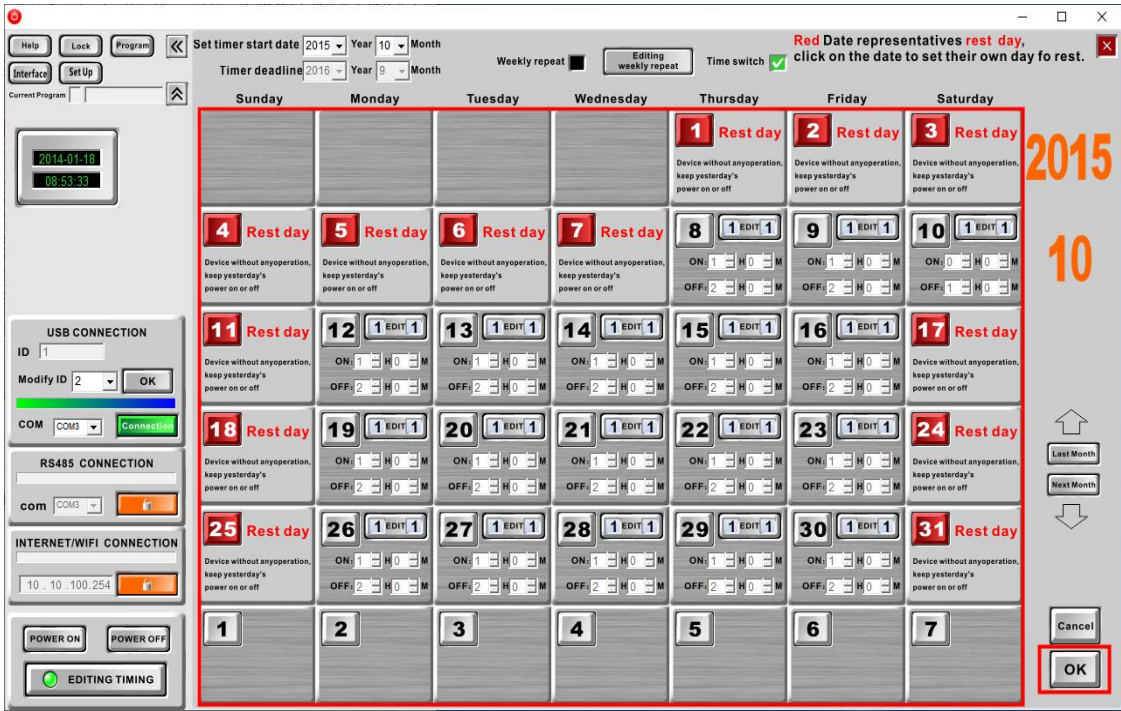
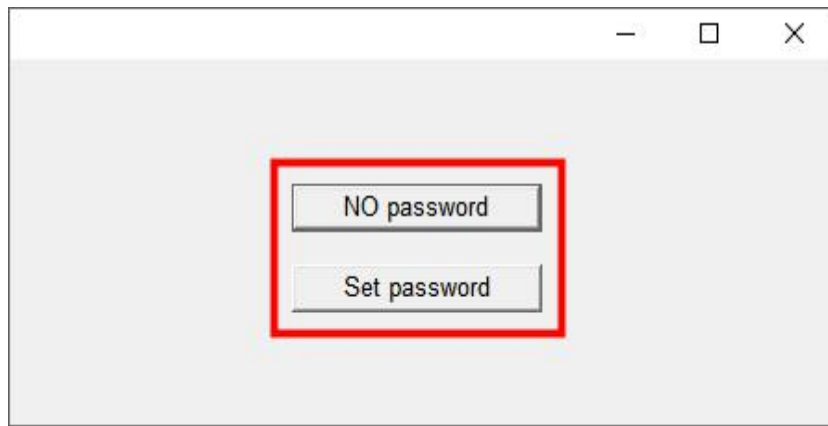

Figure 30
Figure 32
Step 3: Change national holidays to off days. Among them are New Year's Day, Spring Festival, Tomb-sweeping Day, Labor Day, Dragon Boat Festival, Mid-Autumn Festival, and National Day. As shown in Figure 30 below, the National Day holiday schedule from October 1st to 7th will be switched to off days, and October 10th will be set as a working day. Click OK to save the data to the device.
Click Lock in Figure 30 above, and the function menu as shown in Figure 32 will pop up.